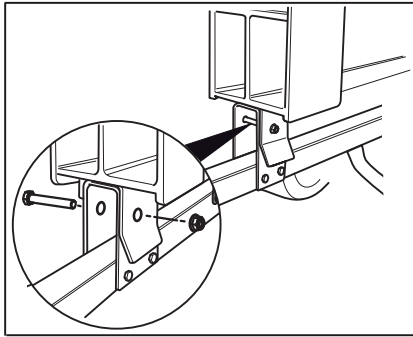

Fig. 6b
- Attach bolt and nut (A) and tighten. Fig. 6b